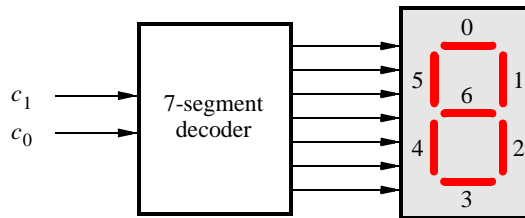

Figure 6. A 7-segment decoder.
Figure 6 shows a 7-segment decoder module that has the two-bit input c_1c_0 . This decoder produces seven outputs that are used to display a character on a 7-segment display. Table 1 lists the characters that should be displayed for each valuation of c_1c_0 . To keep the design simple, only three characters are included in the table (plus the 'blank' character, which is selected for codes 11).
2. Create a VHDL entity for the 7-segment decoder. Connect the c_1c_0 inputs to switches SW_{1-0} , and connect the outputs of the decoder to the $HEX0$ display on the DE0 board. The segments in this display are called $HEX0_0, HEX0_1, \dots, HEX0_6$, corresponding to Figure 6. You should declare the 7-bit port